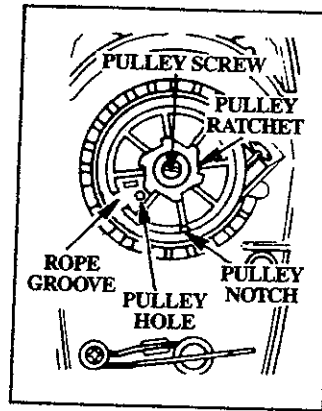

Figure 27
10. Remove screw from the starter pulley very carefully. Rotate the pulley clockwise → until no spring tension is felt and carefully lift the pulley out of the fan housing. Figure 27. Remove the old rope.
17. Carefully replace pulley in the housing. Be sure the pulley is all the way down. Replace washer and screw and tighten. Figure 27.